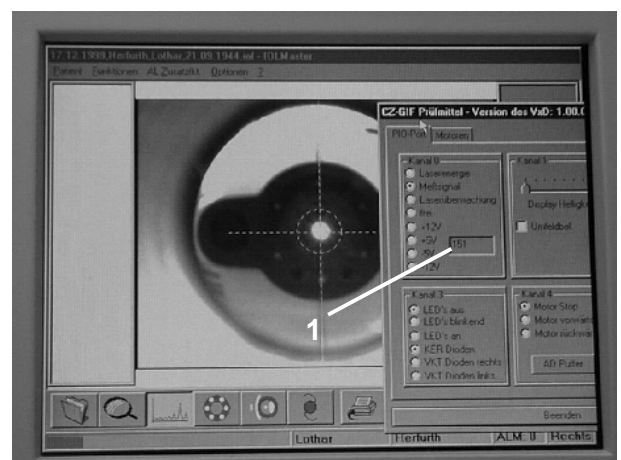

Fig. 21b
- Using the joystick, align the IOLMaster horizontally and vertically with the test eye in such a way that the reflections from the cornea and the retina exactly coincide and that maximum measuring signal is obtained at the same time ((1) Fig. 21b). Lock the base in position after the alignment. Or better: attach the alignment device 1078-810 to the instrument and swing the ALM/KER test eye in working position.